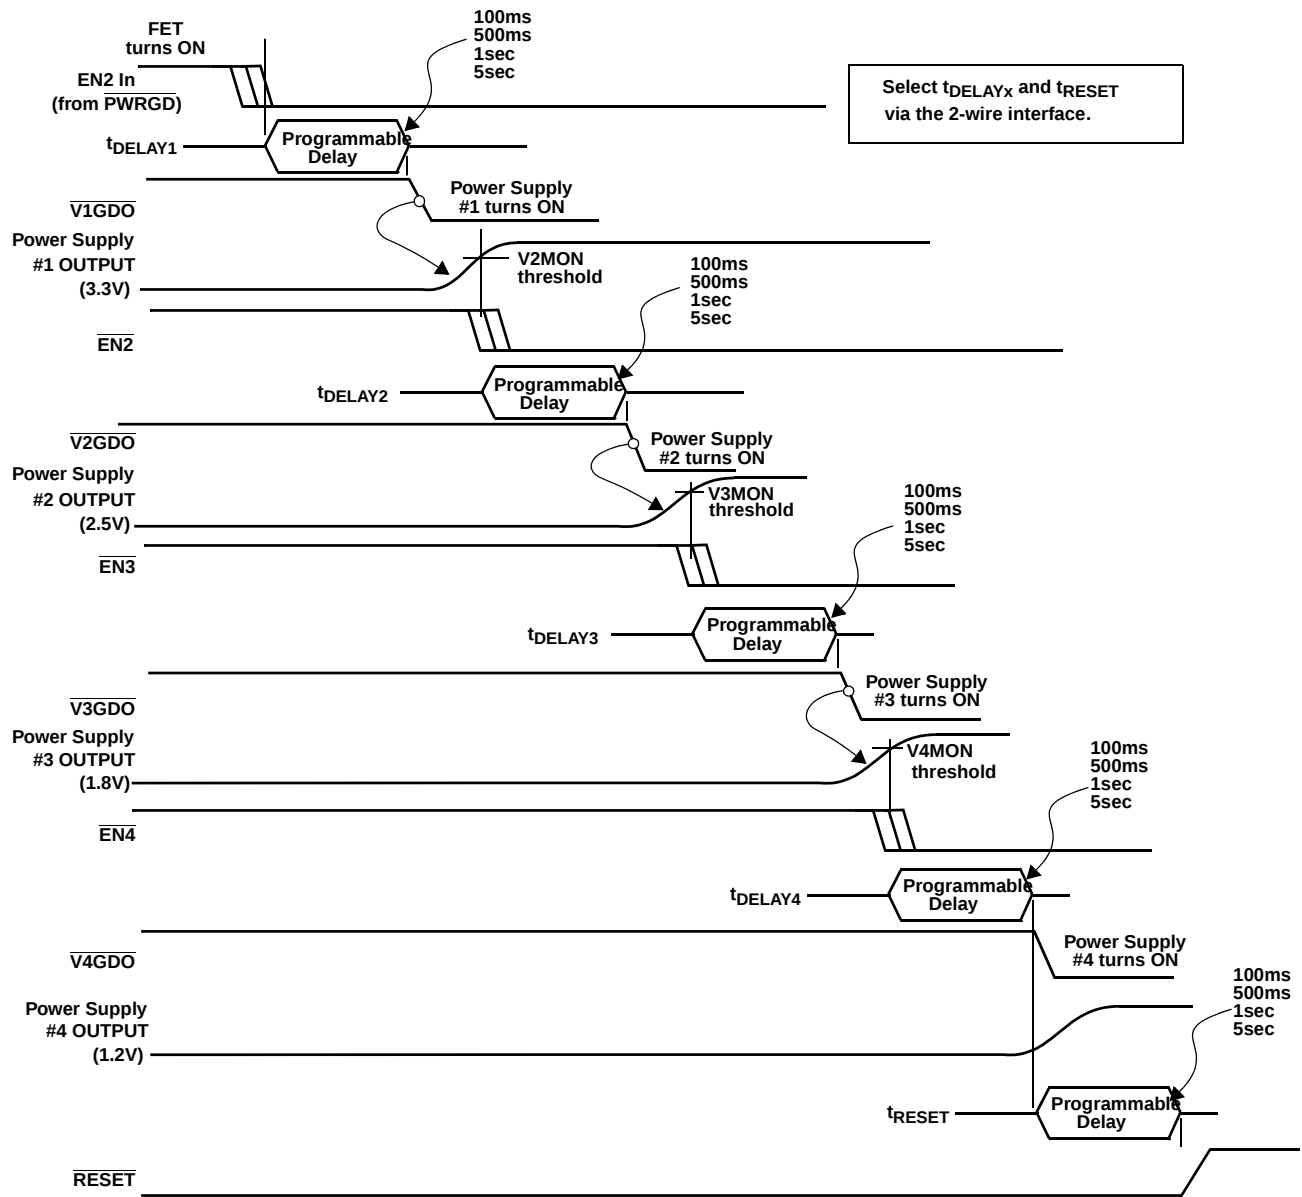

FIGURE 36. RELAY SEQUENCING OF DC-DC SUPPLIES (TIMING)
2. Power Up of DC-DC Supplies Via Relay Sequencing Using Power Good and Voltage Enables (see Figure 35 and Figure 36).